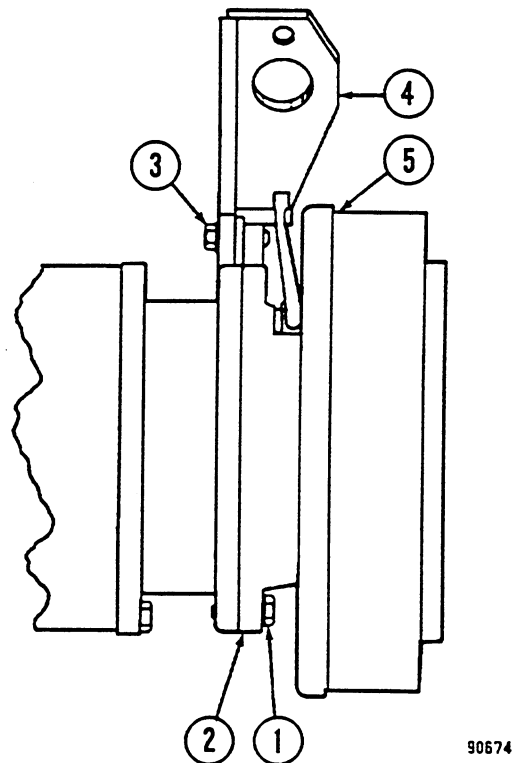

FIGURE 5-5. PARKING BRAKE RETAINER REMOVAL
3. Loosen capscrews (4), but do not remove. Release parking brake, remove capscrews (4) and brake drum (5). Remove locknut (3) and companion flange (1).
4. Remove capscrews and washers (1, Figure 5-5) and remove brake retainer (2) and parking brake assembly (5). For further service of the parking brake see Section "J".